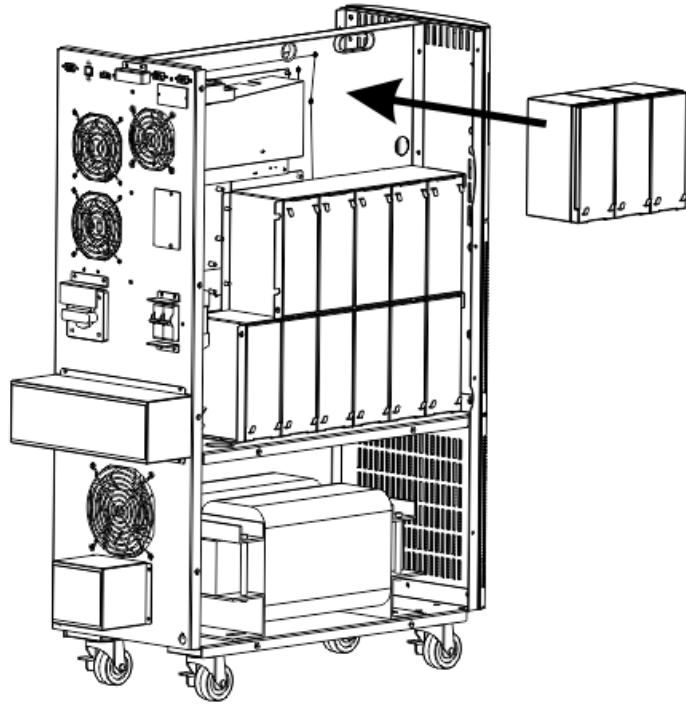

FIG. 11
22. Install the new batteries on the top row (FIG. 11). **NOTE:** The battery terminals MUST be on the bottom side.